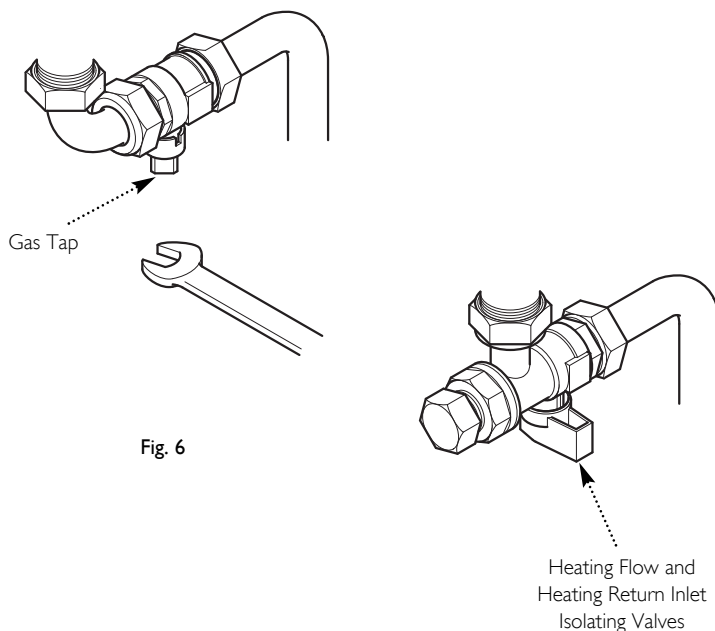

Fig. 6
1. Using a suitable open ended spanner, turn the square nut on the gas tap through 90° (1/4 turn) to isolate the gas supply at the boiler (Fig. 6).
2. The water isolating valves are positioned under the boiler and can be closed by turning their taps to the right towards the wall (Fig. 6).